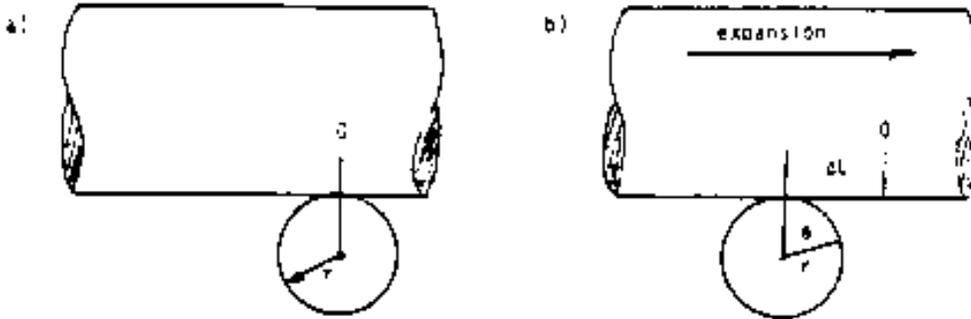

Figure 2. (a) Position of rod on axle prior to heating.
Figure 2 shows that the increase in length,  $\Delta L$ , that occurs as a result of heating, causes the axle on which the rod rests to rotate through an angle  $\theta$ . The change in length,  $\Delta L$ , is the same as the arc length subtended by the angle  $\theta$ . Therefore,  $\Delta L = r\theta$ , where  $r$  is the radius of the axle and  $\theta$  is angular displacement of the rod in radians. When this is substituted into (2), the coefficient of linear expansion can be written as